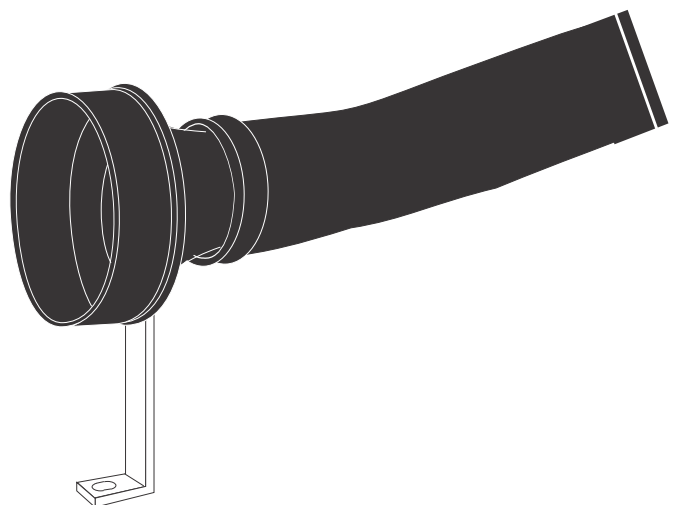

fig. 2
- 5) Install the aluminum velocity adapter into the large end of the new intake tube, (It will slide in easier by running hot tap water onto the tube). Position the aluminum velocity adapter in tube as shown. Secure tube to aluminum velocity adapter with supplied hose clamp. (see fig. 2)